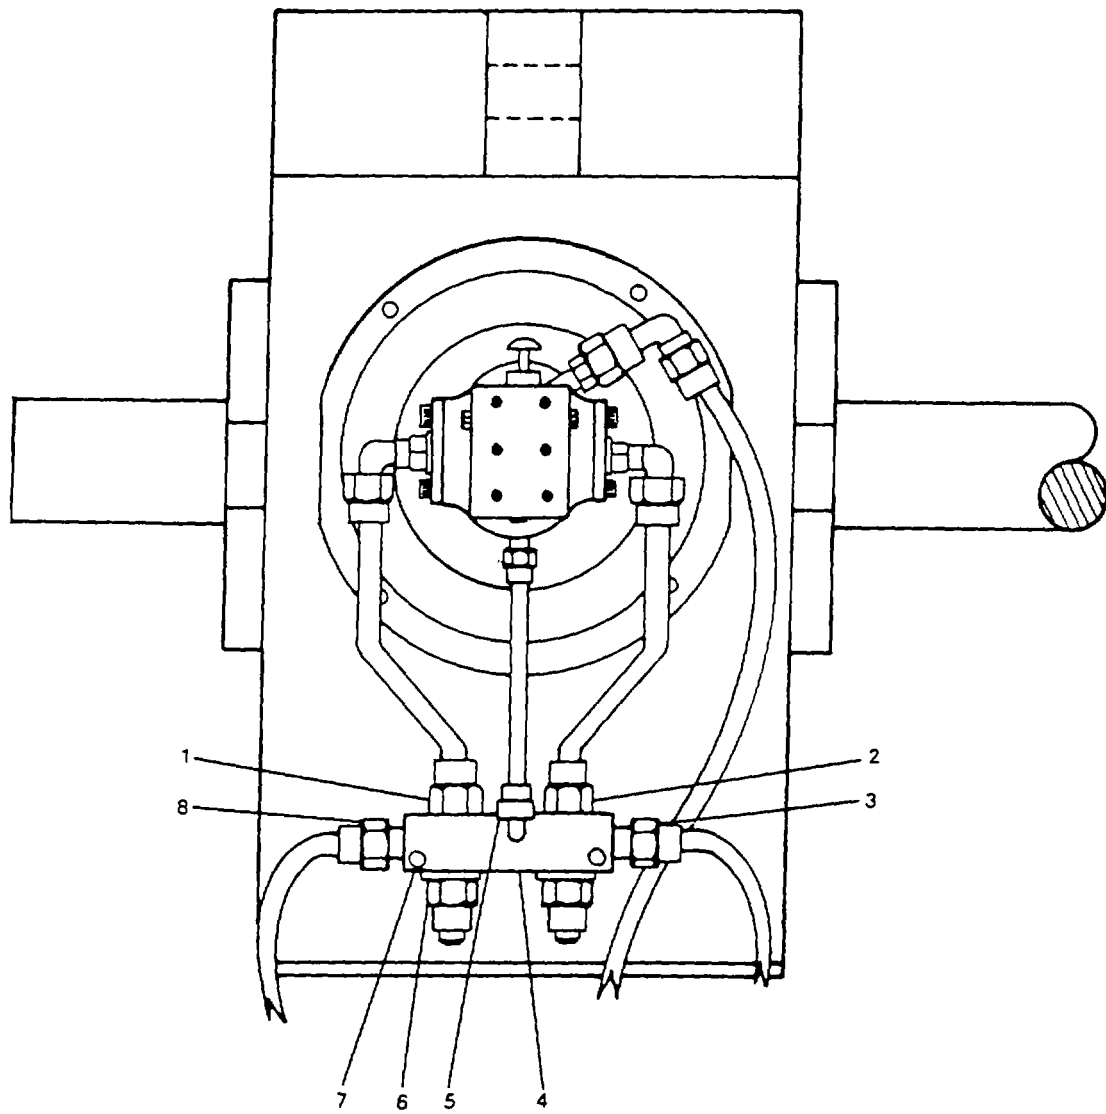

FIGURE 2-5. Hydraulic Valve.
- (10) Remove "Out of Service - Do Not Operate" tag from circuit breaker on main switchboard and control panel on stern control box.
**2-14. Replace/Repair Hydraulic Valve. (FIGURE 2-5)**